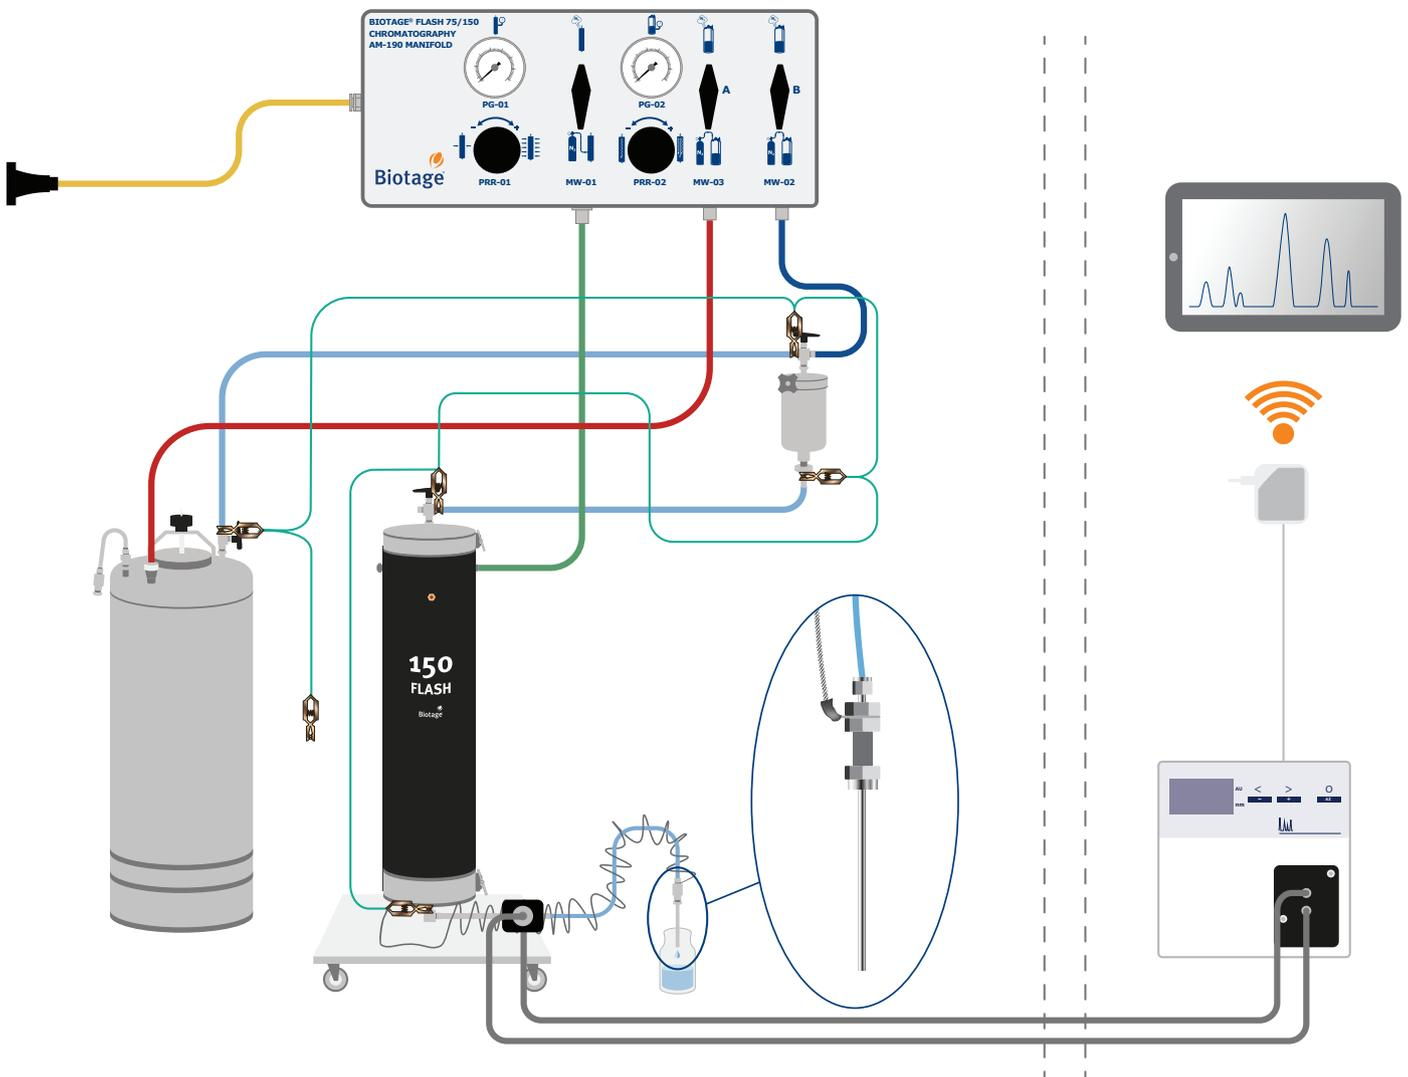

Figure 1. Flash 150 system with UV monitor and grounding kit.
4. Verify that the system and ancillary containers are grounded. Nominal resistance must be below 5 Ohm between ground and each metal point in the system. See the proper grounding setup in Figure 1.